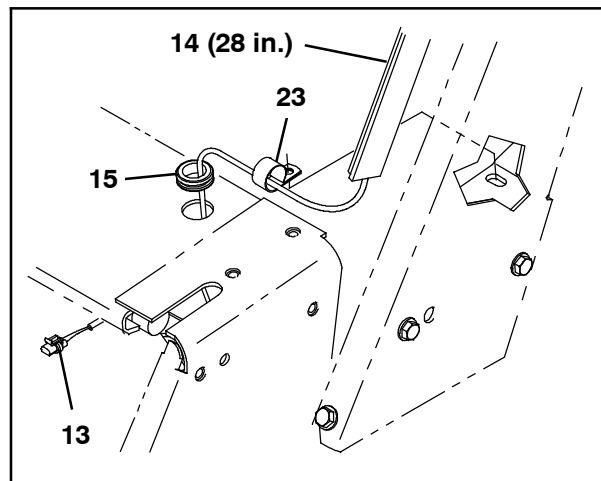
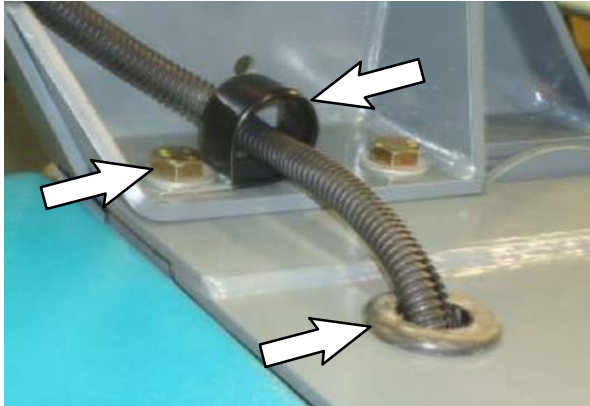

FIG. 10
FIG. 11
14. Insert the grommet (15) into the hole in the operator compartment. (Fig. 10 / Fig. 11)
15. Remove the M12 hex screw and flat washer securing the overhead guard channel to the machine. Set the M12 hex screw and flat washer aside. (Fig. 11)
16. Route the alarm / strobe harness (13) through the sections of vinyl duct (14) and down to the front of the operator compartment. (Fig. 7 / Fig. 8 / Fig. 9 / Fig. 10 / Fig. 11)
17. Install the clamp (23) onto the alarm / strobe harness (13) and use the M12 hex screw and flat washer to secure the harness to the overhead guard channel. (Fig. 10 / Fig. 11)
18. Route the alarm / strobe harness (13) through the grommet (15) in the hole in the operator compartment. (Fig. 11)